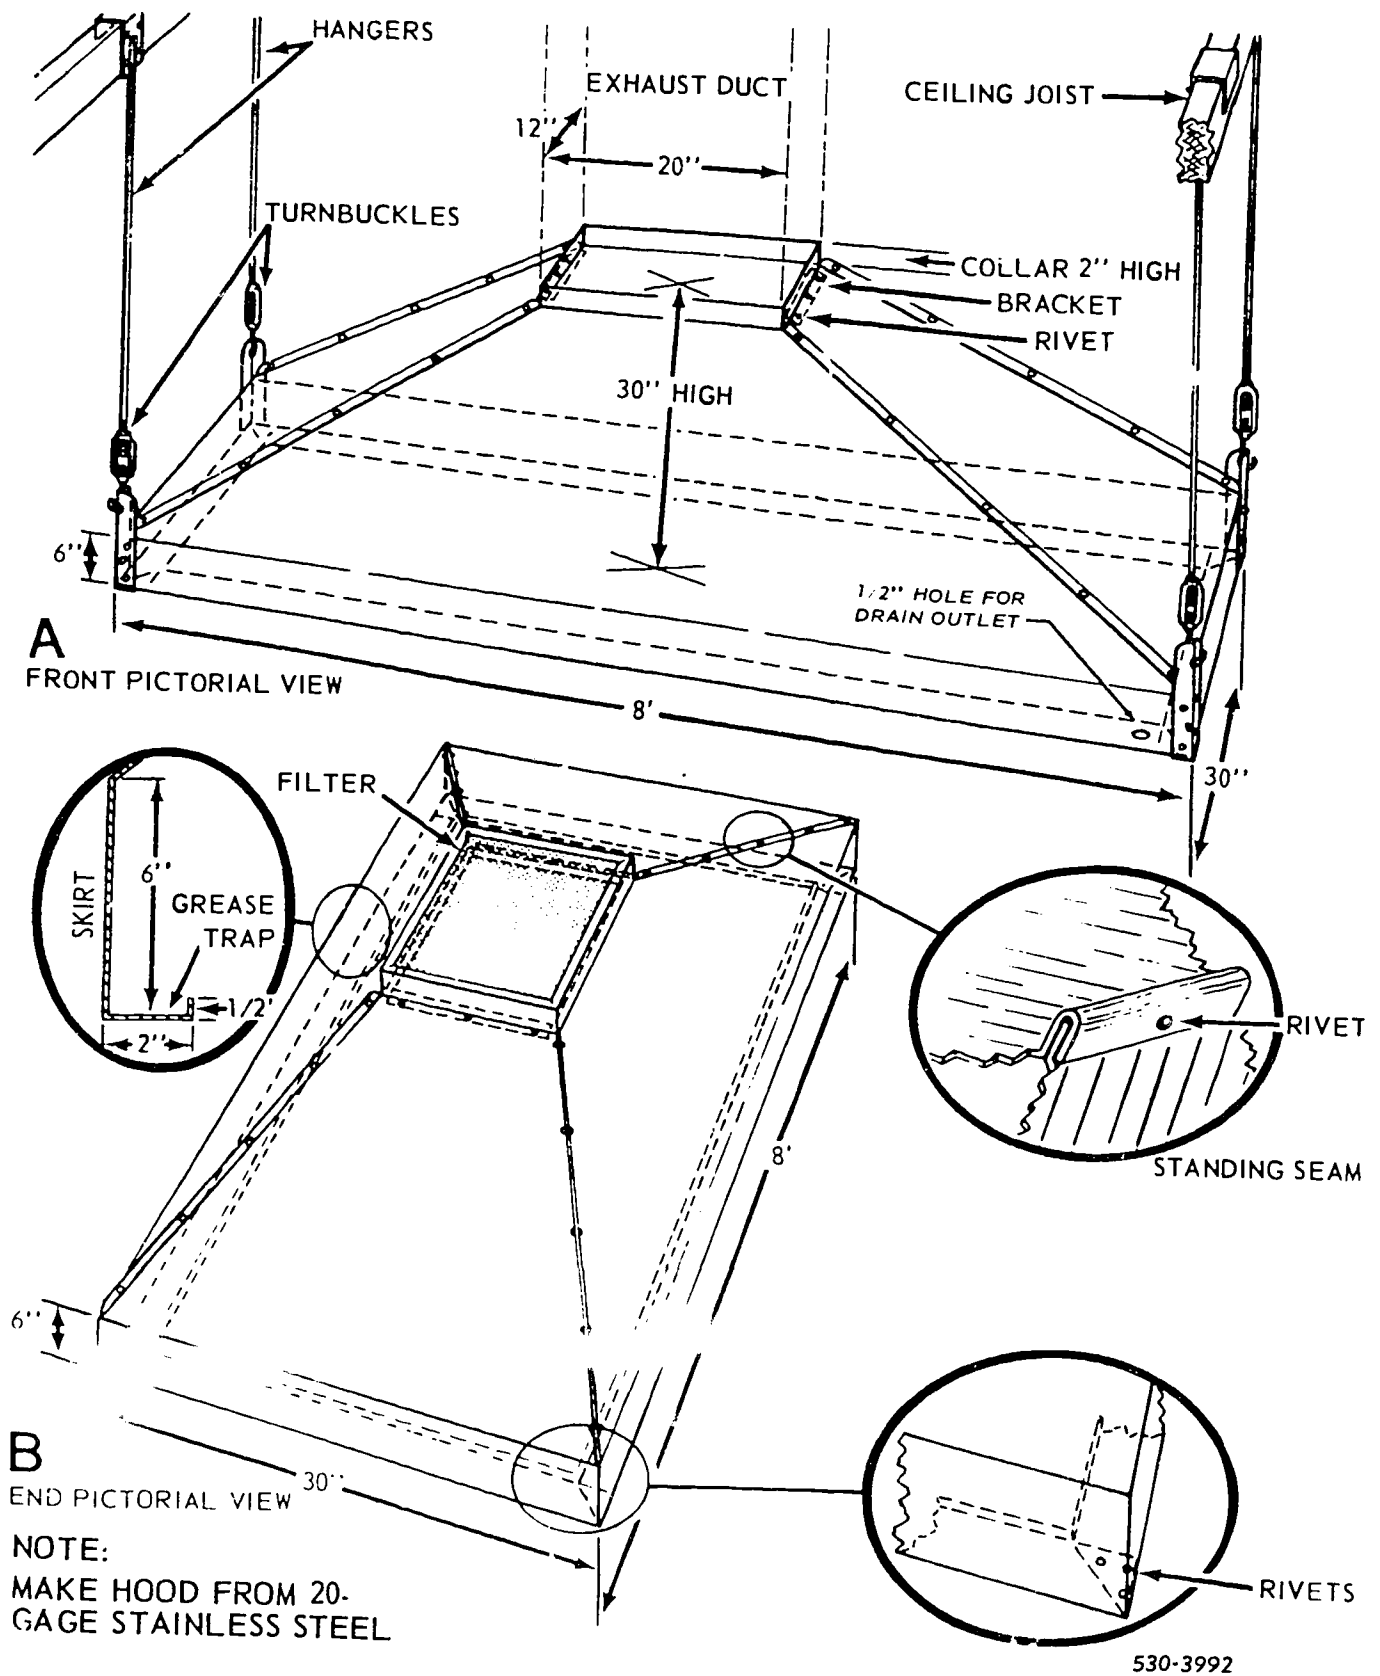

Figure 1-1 Pictorial view of a hood.
To obtain the best range of air pickup, the range hood should extend 6 to 8 inches beyond the sides of the range and 12 to 18 inches beyond the front. Hoods are usually made of 16-gauge stainless steel and have grease filters that can be removed for cleaning. The inside bottom edge of the hood has a flanged edge (lip) that acts as a grease collector or trap. One corner of this grease trap has a drain plug for draining any grease that collects. Figure 1-1 shows the location and shape of the grease trap. You will encounter hoods of various sizes and shapes; however, the fabrication and installation is similar to that for the one shown in figure 1-1.
To fabricate a hood, you need to know the dimensions and shape. Figure 1-1 shows pictorial views and details of a hood that measures 8 feet long and 30 inches wide. It has a filter that fits inside the collar, and a drain plug in one corner of the grease trap. The collar at the top of the hood where the exhaust duct connects is 2"x 12"x 20". The corners of the grease trap and the standing seams are secured with Monel rivets.
**Pattern Layout for a Hood.** In figure 1-1, you can see that the hood is shaped somewhat like a transition. You should remember from (Volume 3) the triangulation method of layout that is used to develop patterns for transitions. A very similar method is used to lay out the pattern for this hood. This hood can be made in four pieces, as shown in figures 1-2 and 1-3. Notice that the front, back, and two sides will each be one piece.
The additions and seam allowances for the front and back pattern shown in figure 1-3 are made from information contained in the pictorial views of figure 1-1. Make the additions below the 8-foot line on the pattern, as follows: 6 inches for the skirt, 2 inches for the lip of the grease trap, 1/2 inch for the flange of the grease trap, and 7/16 inch for the hem. At the top of the pattern, make a 2-inch addition for the collar. Make a 1-inch allowance on each side for the 90° flange portion of the standing seam. The next step is to write the bend instructions for the lines on the pattern. Notice that figure 1-3 has bending instructions for the back pattern, a statement that the bends for the front pattern are opposite.
Notches for the front and back pattern are somewhat different from those for other patterns discussed previously in this course. Notice in figure 1-3 that the 2-inch addition for the grease trap is notched at each end and that the same addition on the side pattern is not notched. The reason for this is that when the corners are joined, the 45° cut will be on the outside of the lap joint, and the mitered cut makes a more attractive corner. (Figure 1-1 shows how the finished corner looks and where the rivets are located.) Notice that the 1/2-inch flange addition and the 7/16-inch hem allowance (in fig. 1-3) are notched at 90° so that they will make butt joints when the corners are joined. The 2-inch allowance for the collar has 90° notches. The
**Assembly of a Hood.** Now that the pieces are cut, notched, and formed, the hood shown in figure 1-1 can be assembled. You can begin at any one of the four
The next part of the assembly procedure is to install Monel rivets at the corners of the grease trap. Make sure that the corners are square before you install the rivets. Carefully lay the hood on its front or back and use a carpenter's square. Install clamps at each corner to hold the corners until you install the rivets. You can doublecheck the squareness of the skirt corners by measuring the corners diagonally. The diagonals should be the same, if all corners are square. After you are certain that the hood is square, install Monel rivets in each of the four corners of the grease trap, as shown in figure 1-1. Solder the inside of the corner lap joint with 50/50 solder.
The two brackets to hold the filter are each made of 11" x 11" stainless steel and are bent 35° along the 11-inch centerline. Fasten these brackets to the sides of the hood with three Monel rivets near the collar (see fig. 1-1). The filter rests on the ½ inch-edge of metal that extends into the opening, and is removed by raising one end until the other end clears the bracket.
**Installation of a Hood.** Before hanging a hood, such as that shown in figure 1-1, determine the location from the drawings or blueprints, then place the joist connectors (fig. 1-4) over the ceiling joists. With the hangers located so that the round rod hooks can be inserted into the corner connectors when the hood is raised into position, have three or more workers raise the hood and insert the hooks into the corner connectors. Level the hood by adjusting the turnbuckles; then slightly lower the drain corner and slightly raise the diagonally opposite corner so that the grease will drain when the plug is removed. Use wood screws to fasten each joist connector to the ceiling joists. The final steps of installation are to connect the exhaust duct, to remove the adhesive paper from the stainless steel, and to install the filter.